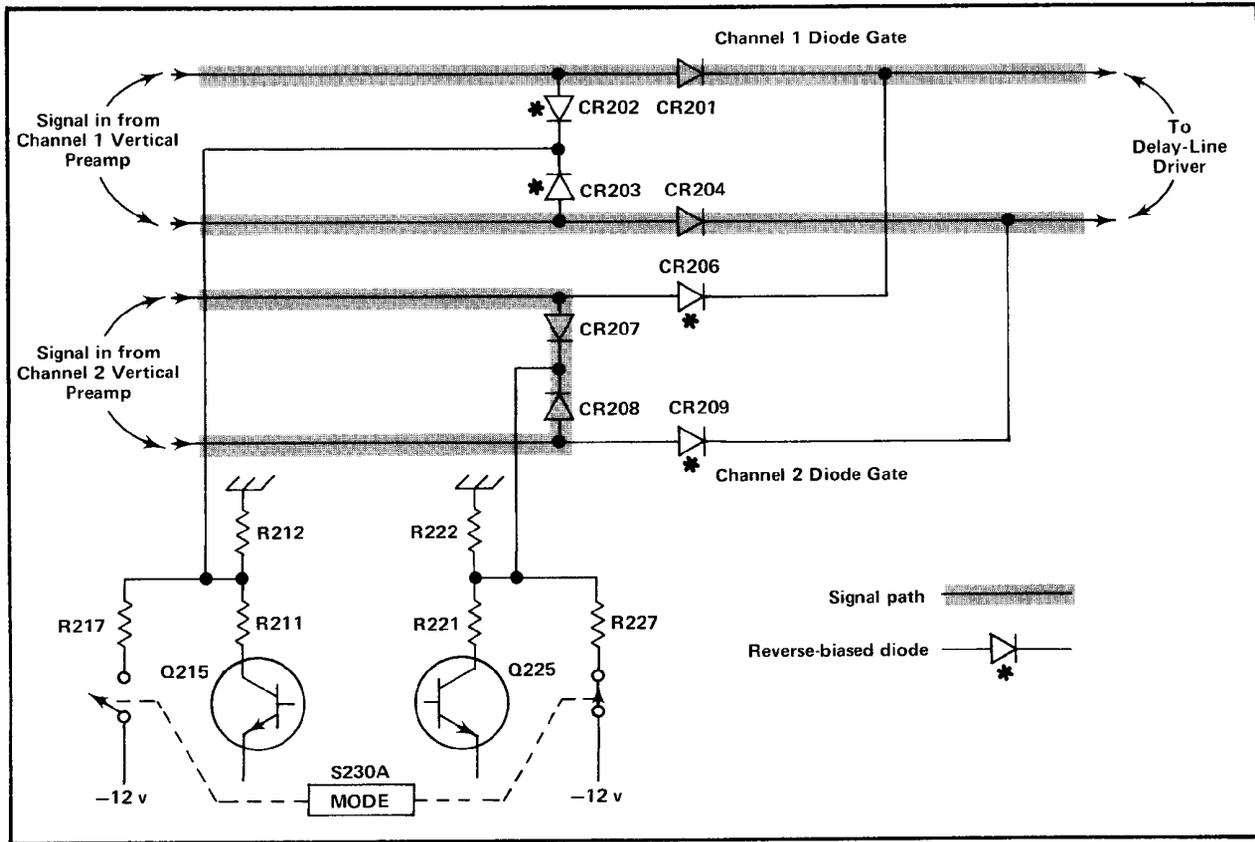

Fig. 3-5. Effect of Diode Gates on signal path (simplified Vertical Switching diagram). Conditions shown for CH 1 position of MODE switch.
**CH 1.** In the CH 1 position of the MODE switch, -12 volts is applied to the junction of CR207-CR208 in the Channel 2 Diode Gate through R227 (see simplified diagram in Fig. 3-5). This forward biases CR207-CR208 and reverse biases CR206-CR209, since the input to the Delay-Line Driver stage is at about -5.8 volts. CR206-CR209 block the Channel 2 signal so it cannot pass to the Delay-Line Driver stage. At the same time, in the Channel 1 Diode Gate, CR202-CR203 are connected to ground through R212. CR202-CR203 are held reverse biased while CR201-CR204 are forward biased. Therefore, the Channel 1 signal passes to the Delay-Line Driver stage.